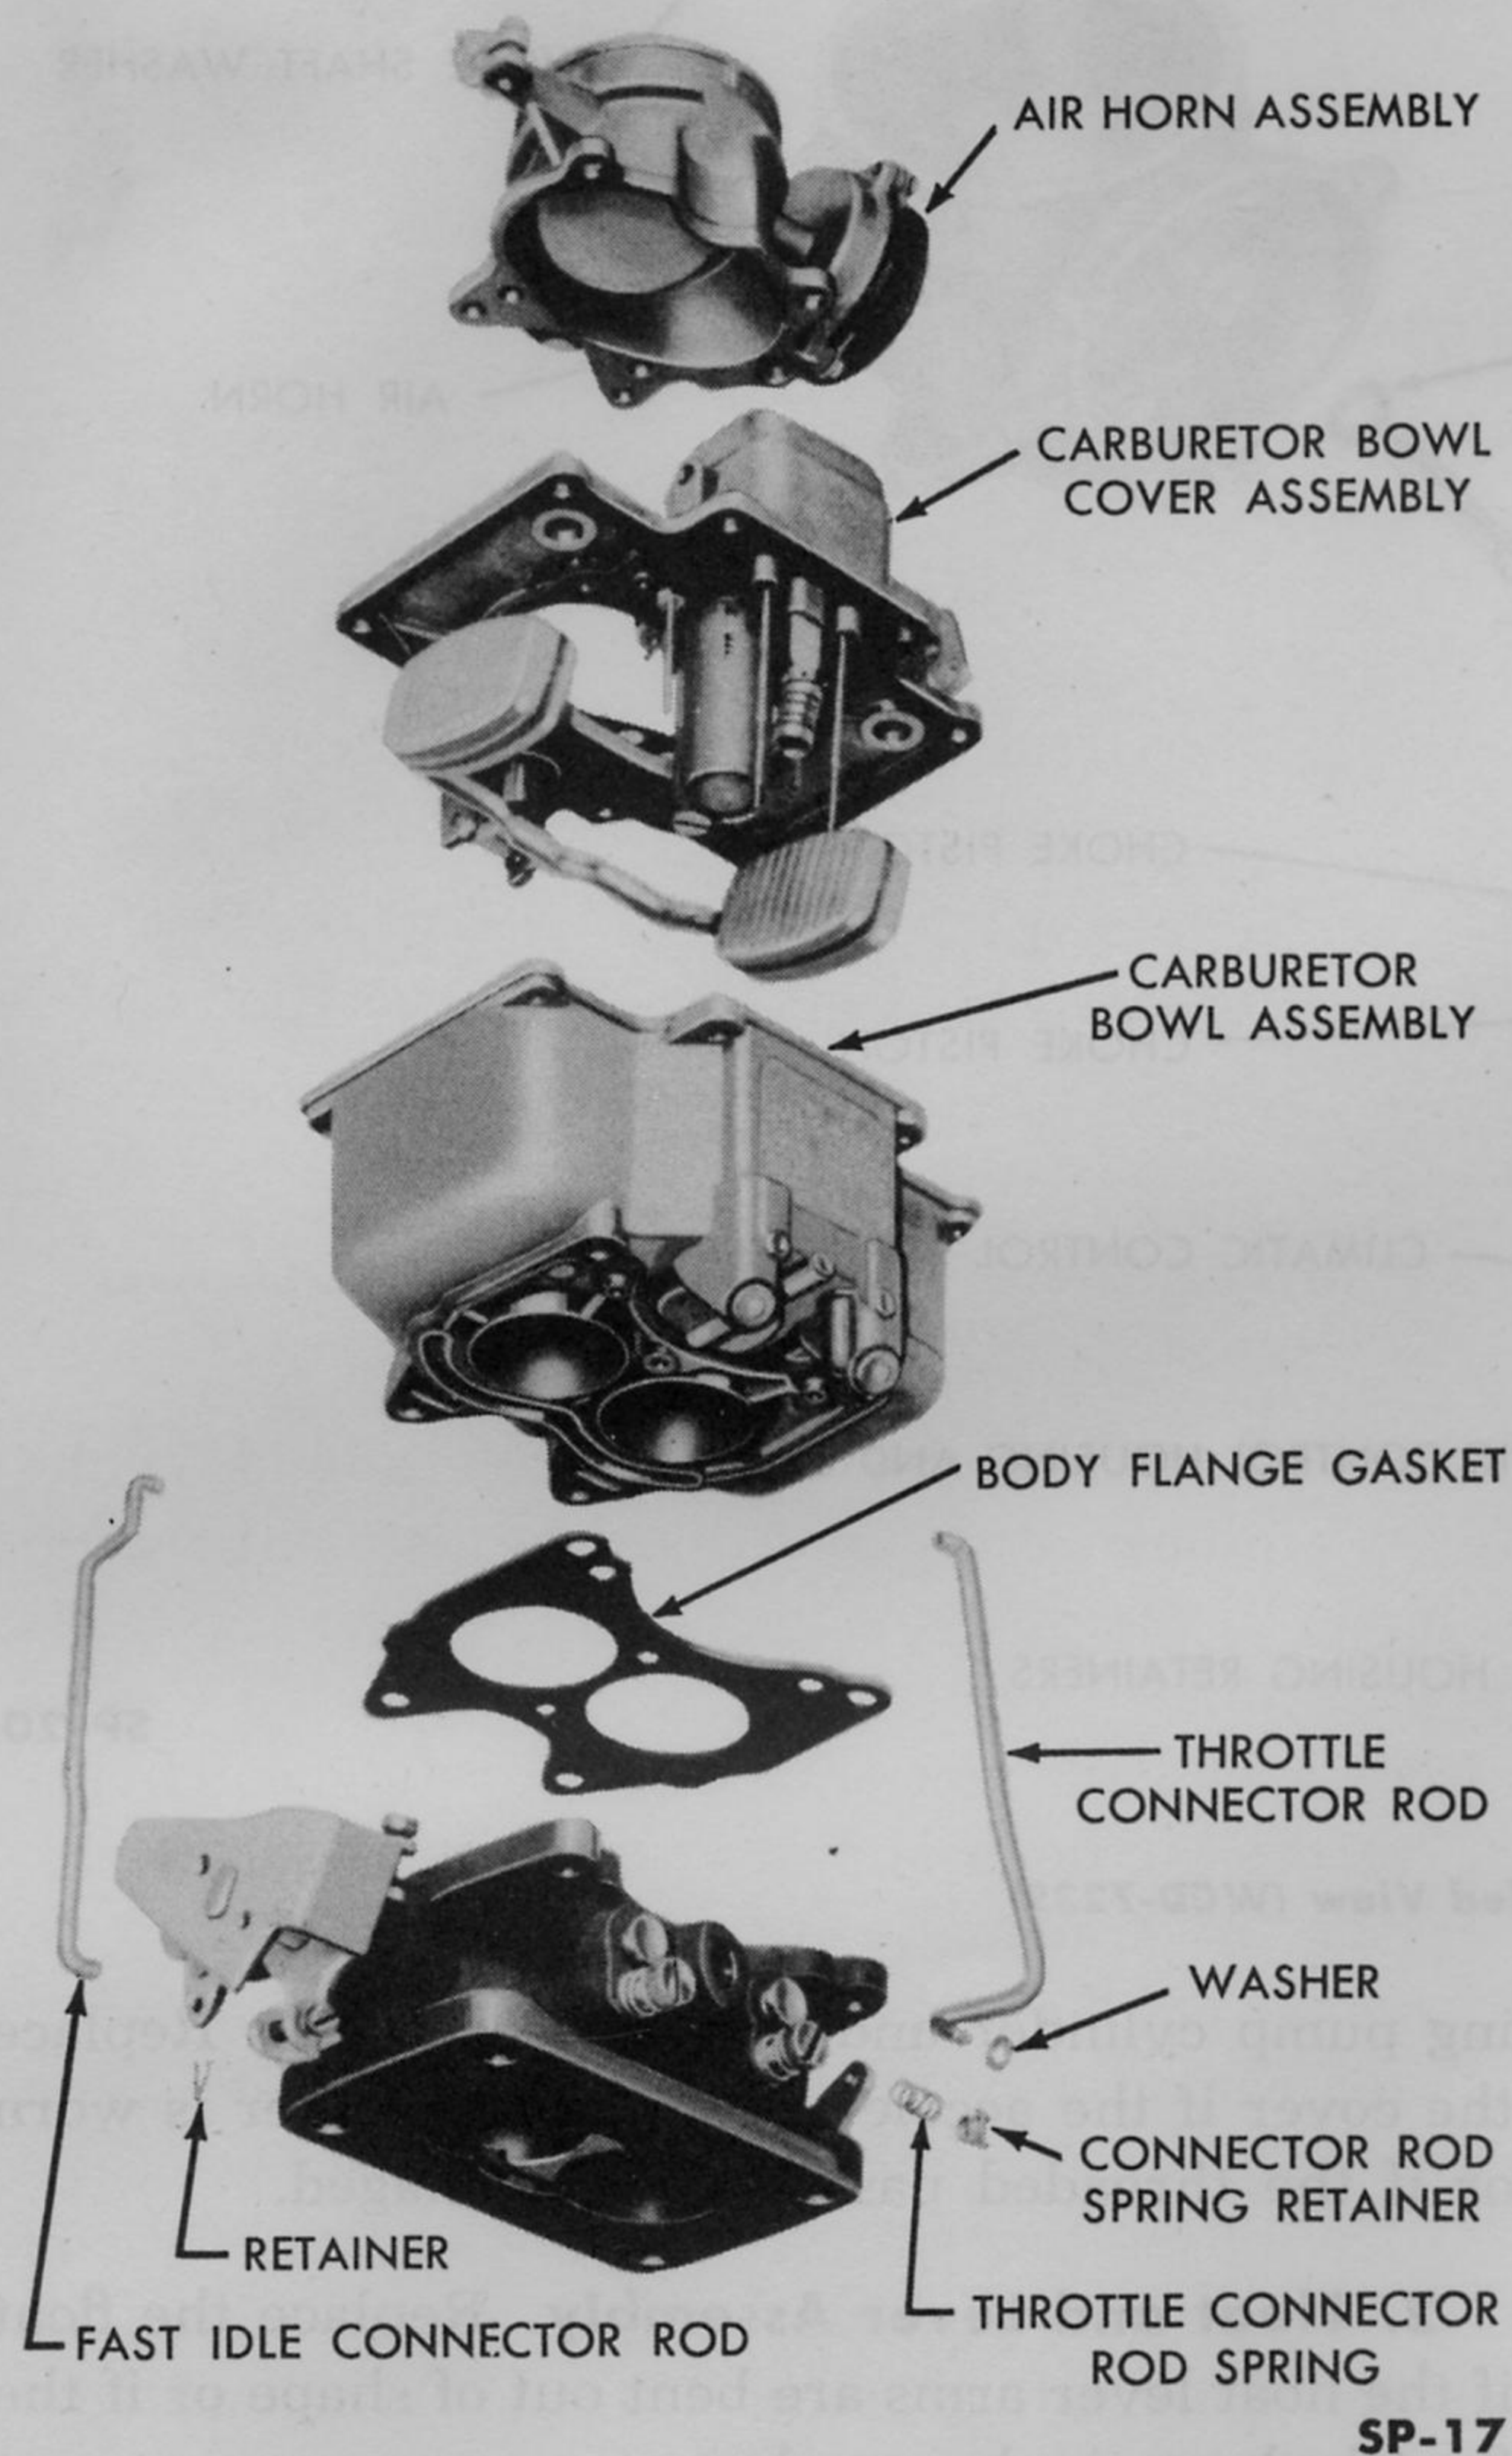
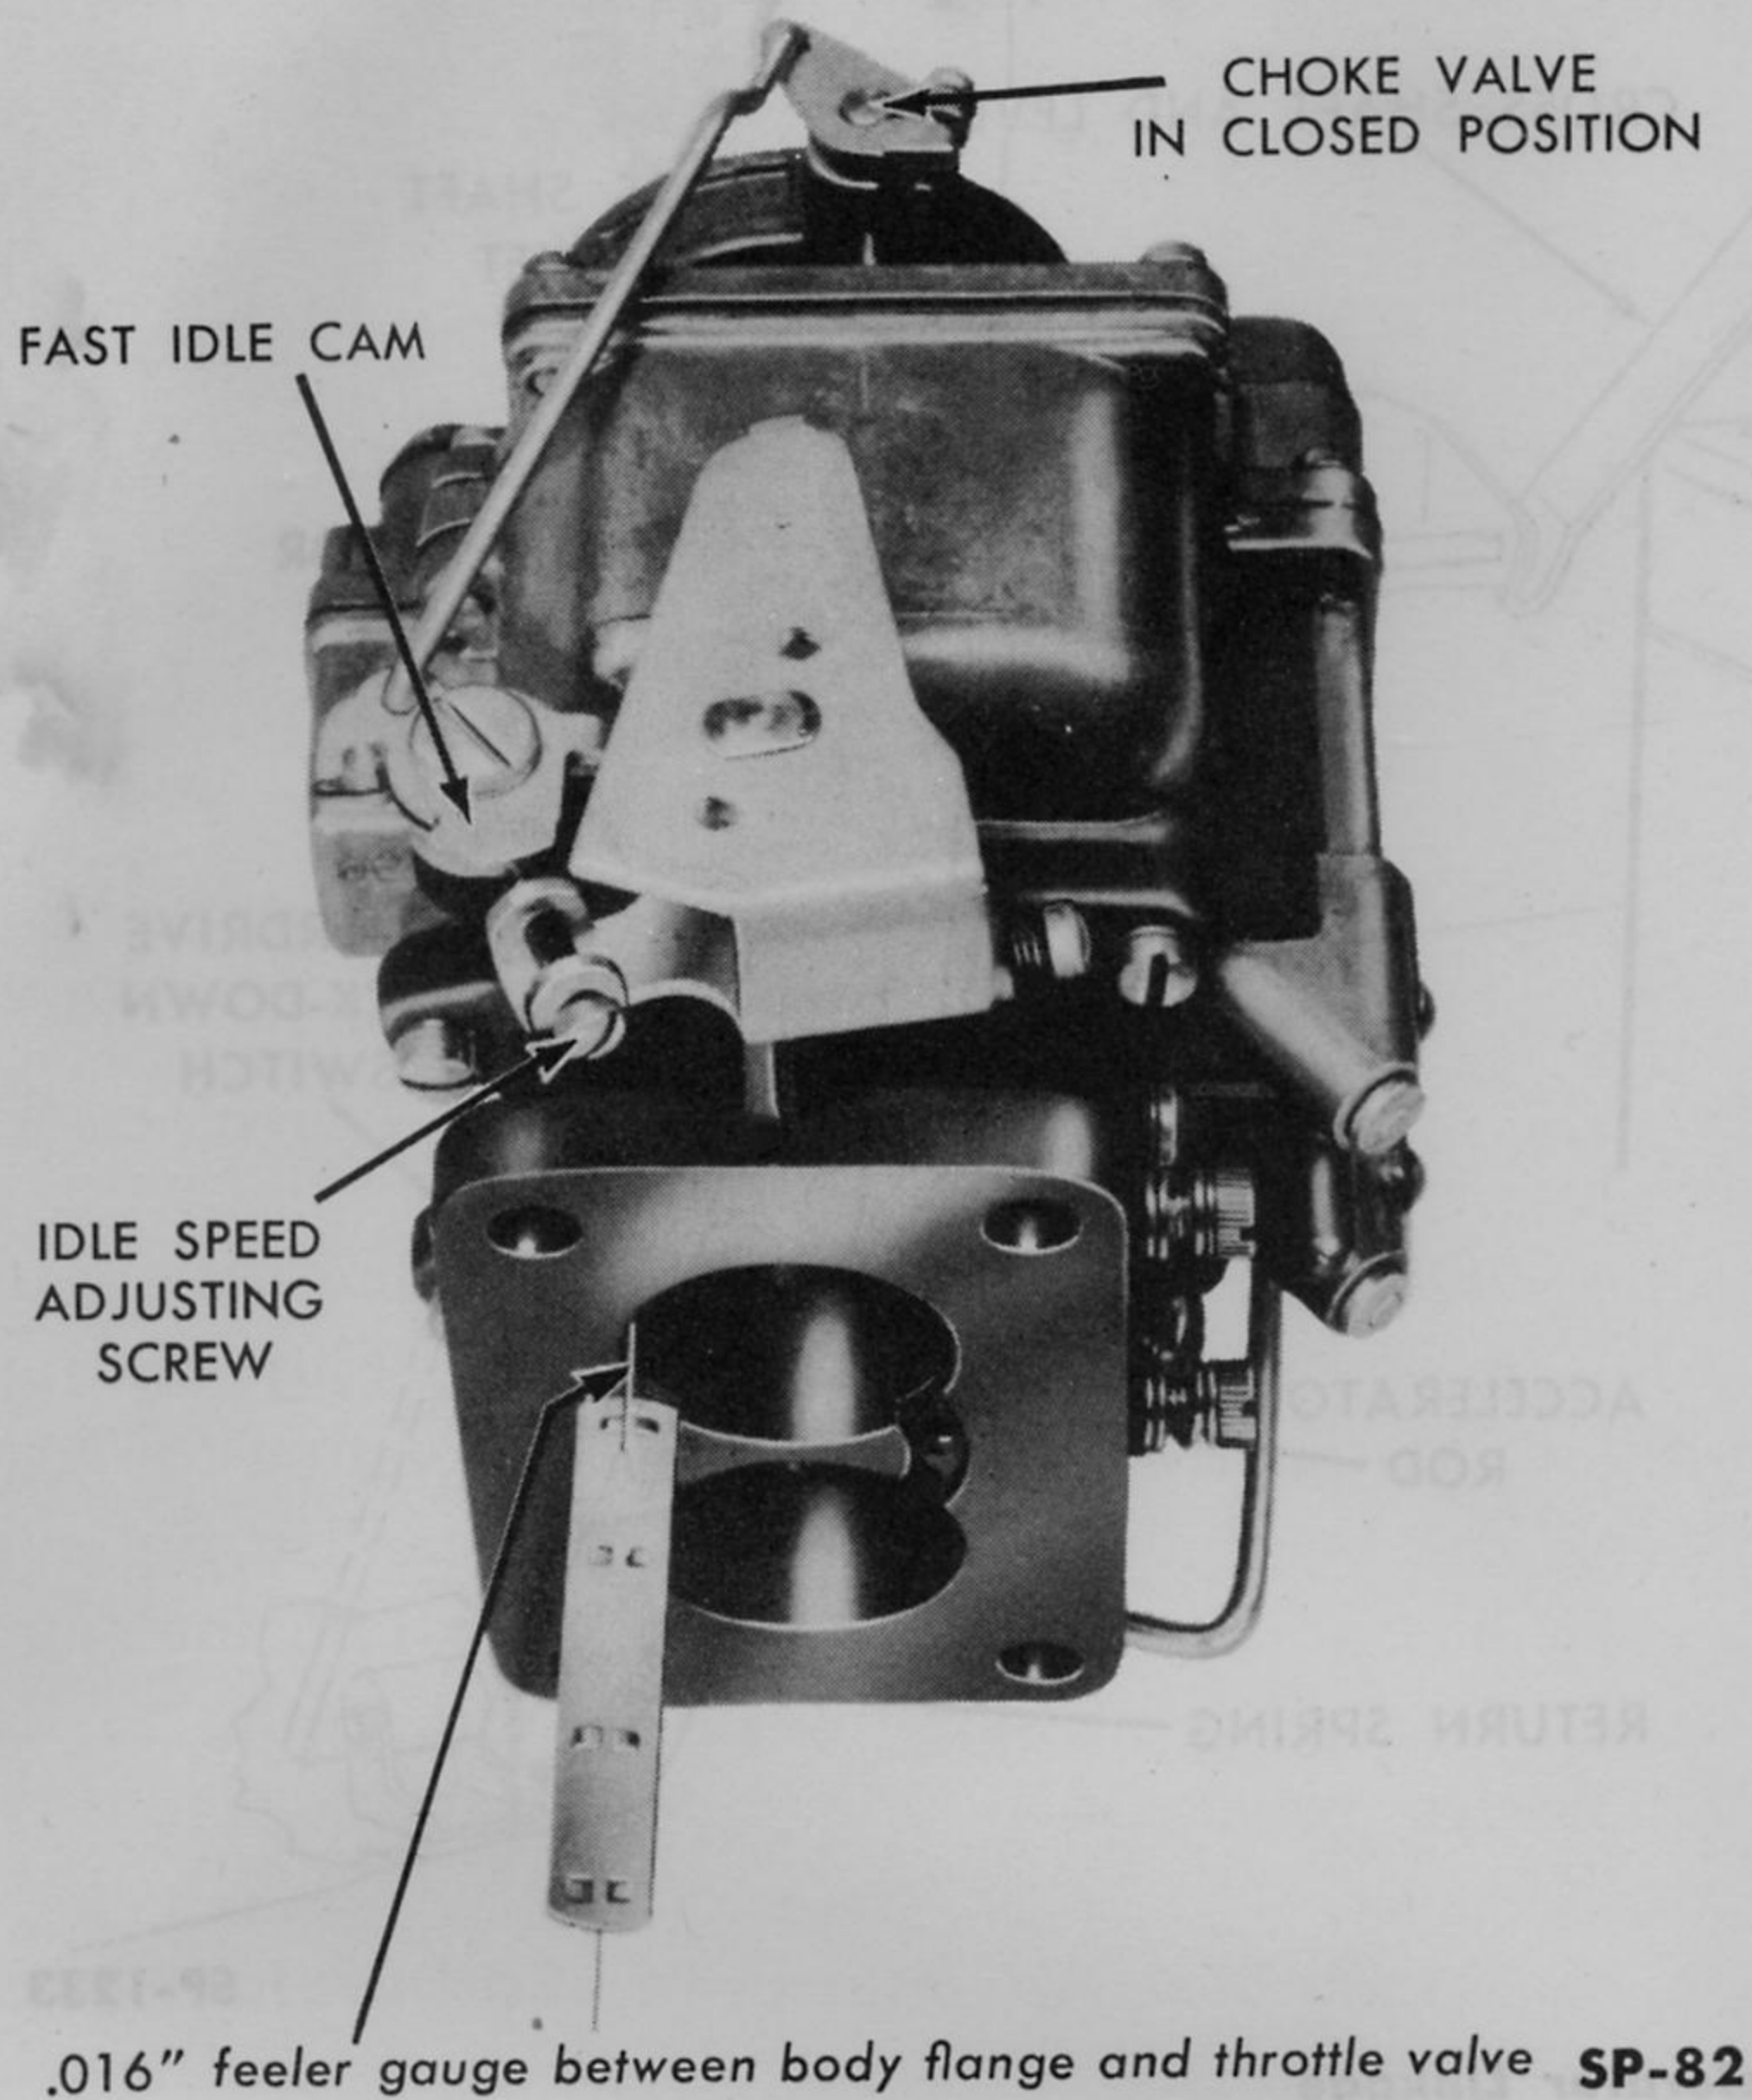

Fig. 132—WCD-723S Carburetor—Exploded View
Fig. 141—Fast Idle Adjustment (WCD-723S)
1. Remove Air Horn. (Fig. 132). Remove the fast idle connector rod retainer from the lower end of the fast idle connector rod. Turn the rod approximately $\frac{1}{4}$ turn and remove the rod from the choke lever. Remove the retainer from the upper end of the throttle connector rod.
2. Remove Carburetor Bowl Cover (Fig. 132). Remove the two screws and lock washers that attach the dust cover to the carburetor bowl cover. Remove the dust cover. Remove the six screws and lock washers that attach the bowl cover to the bowl. Lift the cover from the carburetor bowl.
3. Remove Carburetor Bowl (Fig. 132). Remove the four screws and lock washers that attach the carburetor bowl to the body flange. Lift the bowl from the body flange.
5. Assemble Carburetor Bowl to Body Flange (Fig. 132). Position a new gasket on the body flange. Attach the carburetor bowl to the body flange with four screws and lock washers.
6. Assemble Carburetor Bowl Center Cover to Bowl (Fig. 132). Carefully place the cover in position on the bowl. Secure the cover to the bowl with six screws and lock washers. The carburetor is now ready for adjustment as detailed below. **NOTE:** The metering rods and air horns are installed after the
3. Assemble Air Horn to Carburetor Bowl Cover (Fig. 132). Position the air horn on the carburetor bowl cover and install the four screws and lock washers. Connect the fast idle connector rod to the choke lever and screw assembly, then insert the lower end in the fast idle cam assembly and install the retaining pin. Connect the throttle connector rod to the pump operating lever with the retaining pin and to the throttle lever dog with the spring and retaining washer. Hold the choke valve in the closed position, making sure the throttle lever set screw is backed out. Adjust the fast idle set screw until it just contacts the high spot on the fast idle cam (Fig. 141). Place a .018 inch wire gauge between the throttle valve and bore, opposite the idle port. Turn the fast idle screw in again until it just contacts the fast idle cam.